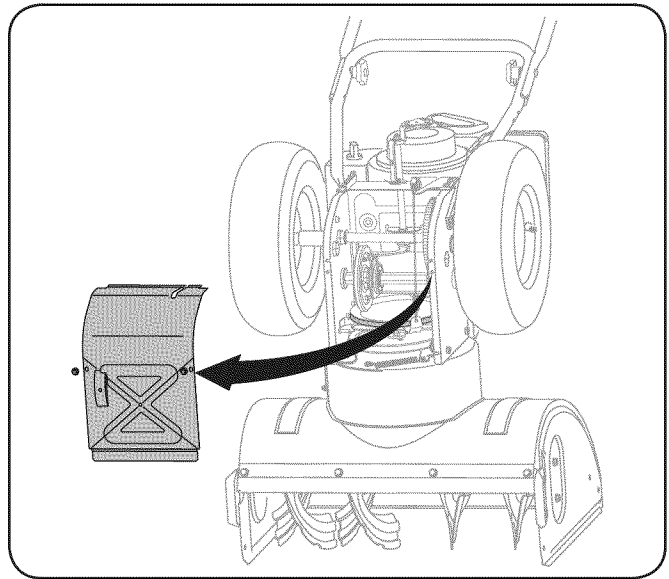

Figure 7-8
- Remove the frame cover from the underside of the snow thrower by removing four self-tapping screws which secure it. See Fig. 7-8.